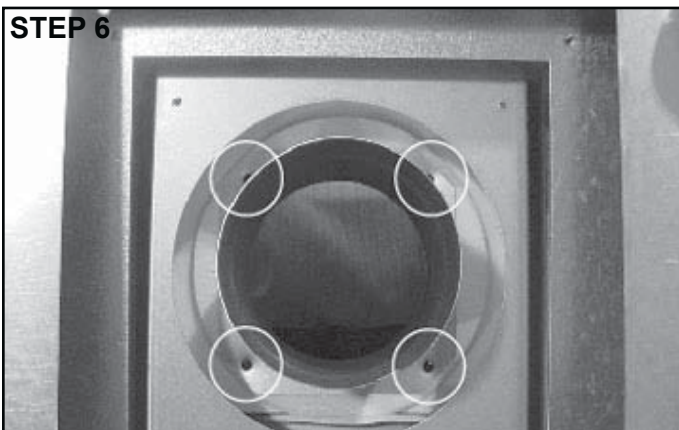

Figure 9.9 Remove Four Inner Collar Screws
- Remove four screws holding inner collar to appliance top. See Figure 9.9. Remove inner collar. Set aside.